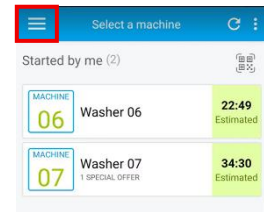

Figure 23
1. Press the **menu icon (☰)** at the top-left corner of the screen to bring up menu options (**Figure 23**).